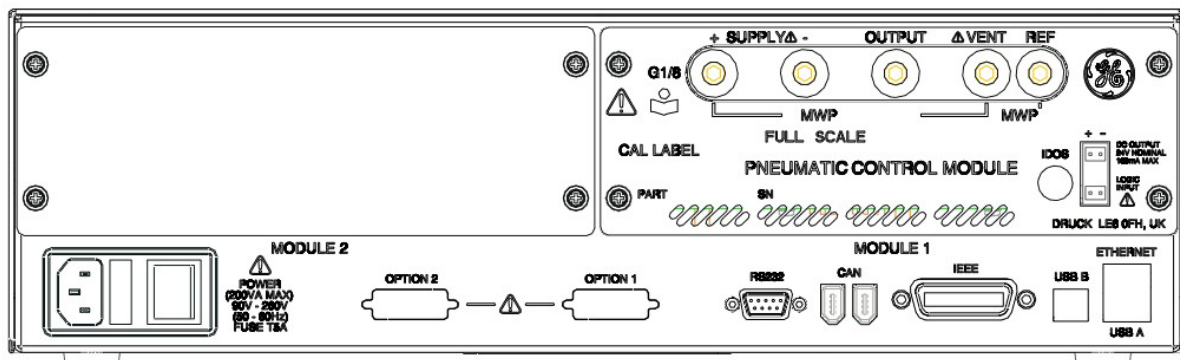

Figure 2-2, Pressure module rear view
- The module with the highest pressure rating is fitted to the right hand side Module 1 position as viewed from the rear of the product refer to (Ref: Fig 2-2)